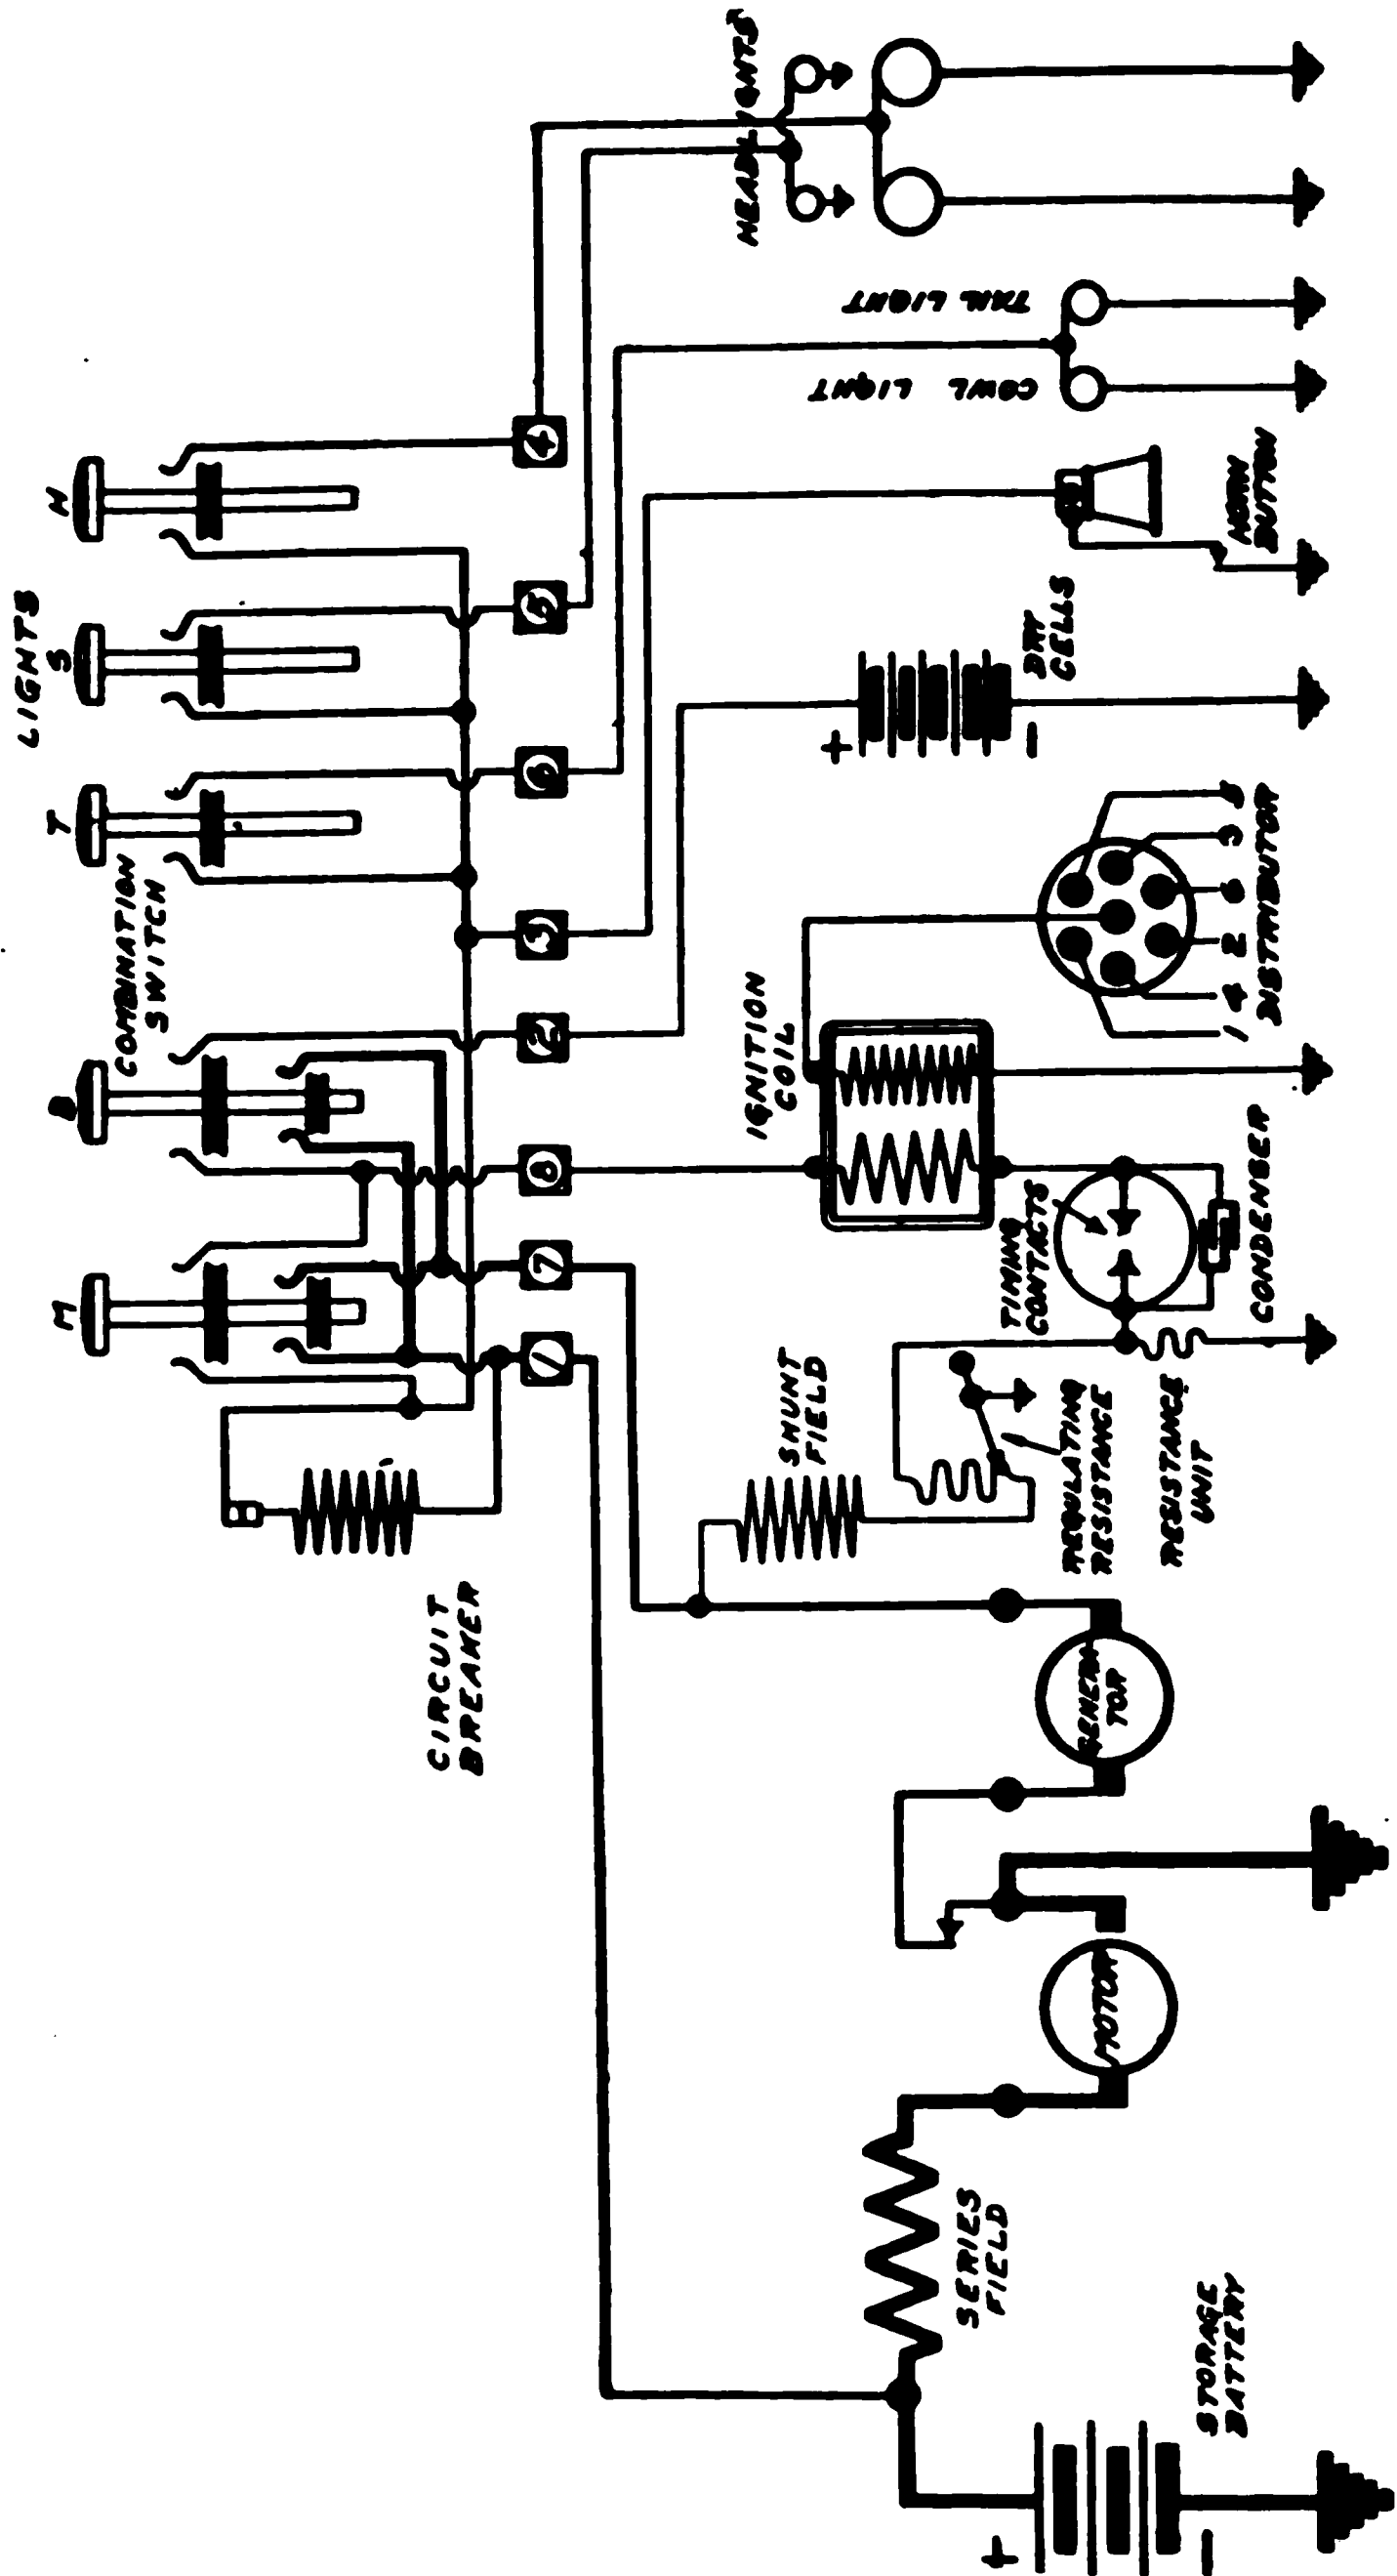
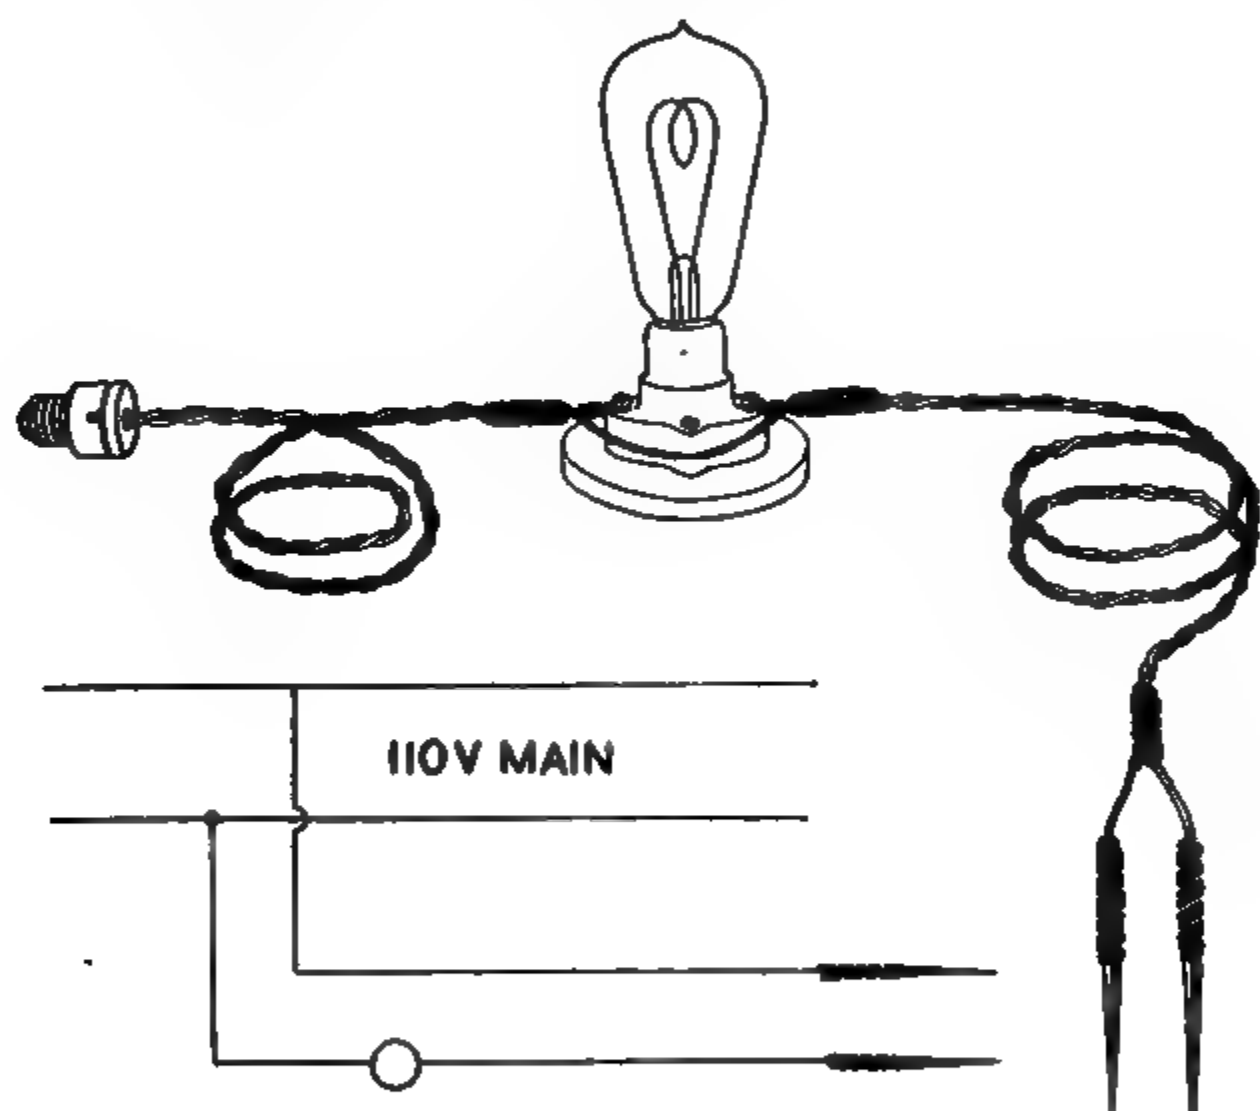

Fig. 208. Wiring Diagram for Delco Single-Unit System on the Auburn Six-40
Fig. 212 Handy Testing Set
**Auburn-Delco Type.** The wiring diagram of the Delco lighting, starting, and ignition system of the Auburn, Model 6-40, Fig. 208, is more completely shown than the one to which reference was made above, in that all the switching connections are indicated and the lamp circuits have been carried out. Examination will also show that it differs in other respects as well. For example, instead of a bucking-coil type of regulator winding, the generator output is controlled through a variable resistance in the shunt-field circuit, the amount of resistance increasing with the speed. As the current
By referring back to the diagram, Fig. 208, and noting the particular function of the circuit breaker, an excellent example of the value of ability to trace wiring diagrams at a glance can be shown. Assume that when the button *M* of the combination switch, Fig. 212, is pulled out, the ignition fails to work. An examination of the *diagram* shows that when *M* is pulled out, its lower contact bridges
**Tracing for Grounds.** This can best be done by a process of elimination in which a knowledge of the wiring diagram will come handy. Referring again to Fig. 208, if the circuit breaker operates when switch *M* of the combination is pulled out, it will be apparent that the ground is located in either the main generator-battery circuit, or the ignition-coil circuit, as it will be seen that the lower contact member of the switch throws the former in the circuit and the upper contact member throws the latter in the same circuit with the circuit breaker. If pulling out *M* does not set the circuit breaker operating, but pulling out *T* does, this would indicate a ground in the circuit of the tail and cowl lights, while the operation of the circuit breaker on pulling out either *S* or *H*, would indicate that the ground was located in the wiring of either the side lights
In beginning a test it is well to go over the fuses first, holding one of the test points of the lamp circuit on one end of the fuse and touching the opposite end of the fuse with the second test point. Failure of the lamp to light will indicate the defective fuse. On systems employing a circuit breaker as shown in the wiring diagram, Fig. 208, no fuses are necessary as the circuit breaker serves the same purpose and also gives an audible signal of trouble by its buzzing. Upon finding an open circuit where one is supposed to exist as shown on the wiring diagram, it is always well to verify this by again testing the trouble lamp itself before beginning to tear anything out. The rough handling to which such a lamp is subjected frequently causes the filament to break.
soldered fast in place. The joints should be heavily wrapped with tape or covered with other insulating material to form a handle, as shown in the illustration, Fig. 212. As shown by the diagram forming part of this illustration, it will be seen that the lamp is in series with one of the points, but that when the circuit is closed by bringing the two points together, the lamp is in multiple with the main circuit. The lamp should be of the carbon-filament type owing to its greater durability. As a lamp of this type of 16 c-p. only consumes a little over 50 watts at 110 volts, or approximately half an ampere of current, there is no danger of injuring any of the apparatus on the automobile through its use. Sufficient cord should be allowed on either side of the lamp to permit of connecting it up with the outlet conveniently.
In using this test outfit, the two test points are pressed on places between which no current should pass, and if the lamp lights it indicates that there is a ground between those points. For example, in Fig. 208, if there were a ground between the generator and the switch so that no current reached the latter, the lamp would not light when the test points were placed on terminals 1 and 7 of the diagram, the generator then being in operation. But a little searching along this circuit would soon show where it was grounded, thus making it easy to locate the break or ground. Fig. 213 is a graphic illustration of a ground causing a short circuit, due to worn insulation.